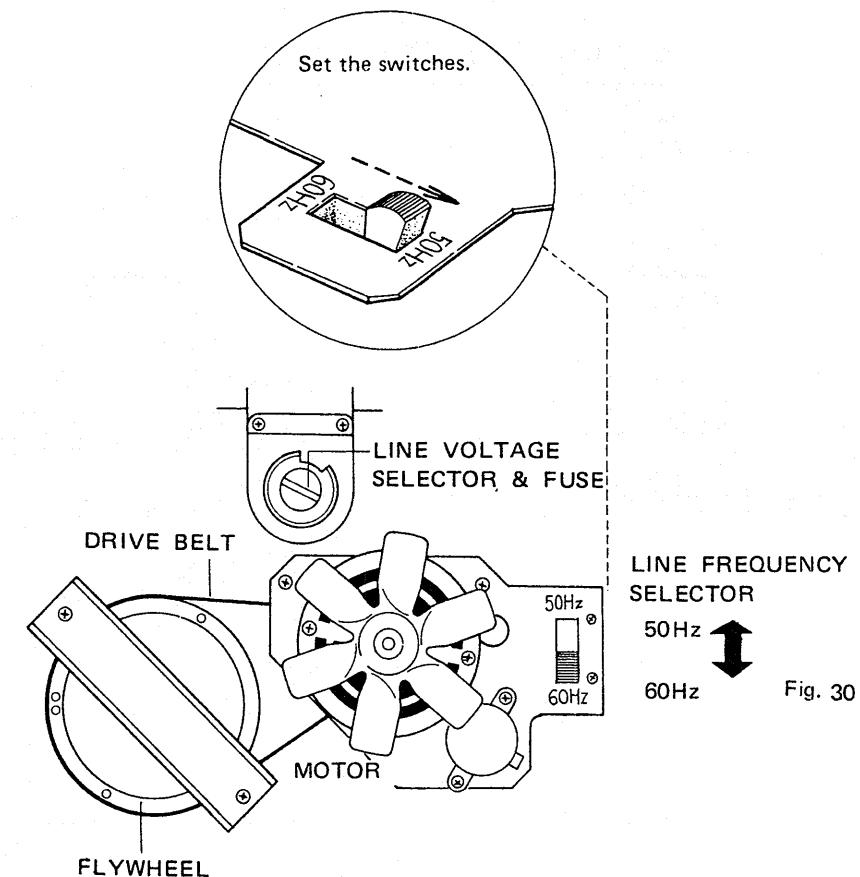

Fig. 30
9.2 SWITCHING LINE VOLTAGE SETTING AND FUSE (Figs. 30, 31)